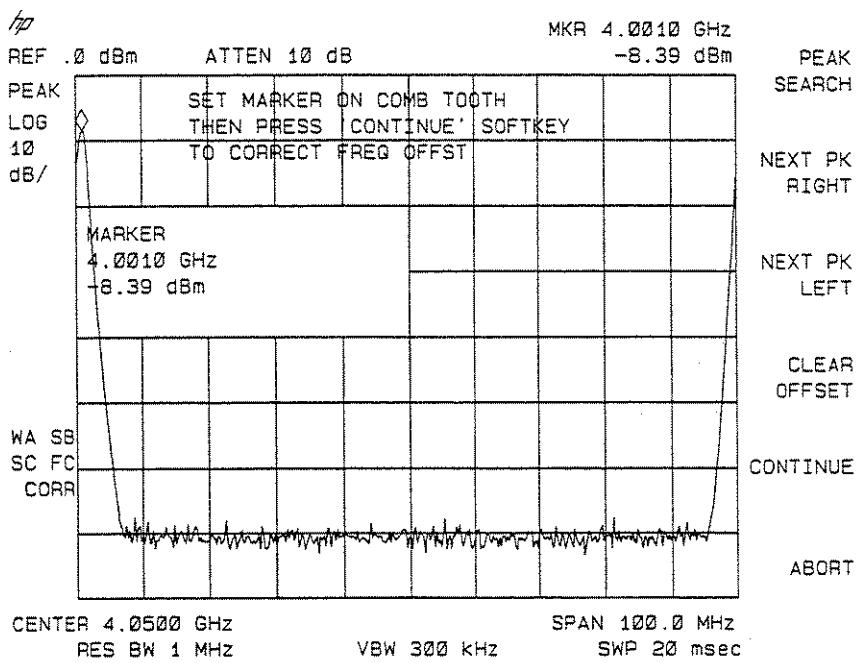

Figure 2-33. Using the Correct to Comb Function
3. Press **AUX CTRL**, **COMB GEN ON OFF** (ON), then **CORRECT TO COMB**. The marker is activated and the menu for the correct to comb routine is displayed. The message **SET MARKER-ON-COMB-TOOTH-THEN-PRESS-CONTINUE-SOFTKEY-TO-CORRECT-FREQ-OFFST** is displayed. See Figure 2-33.